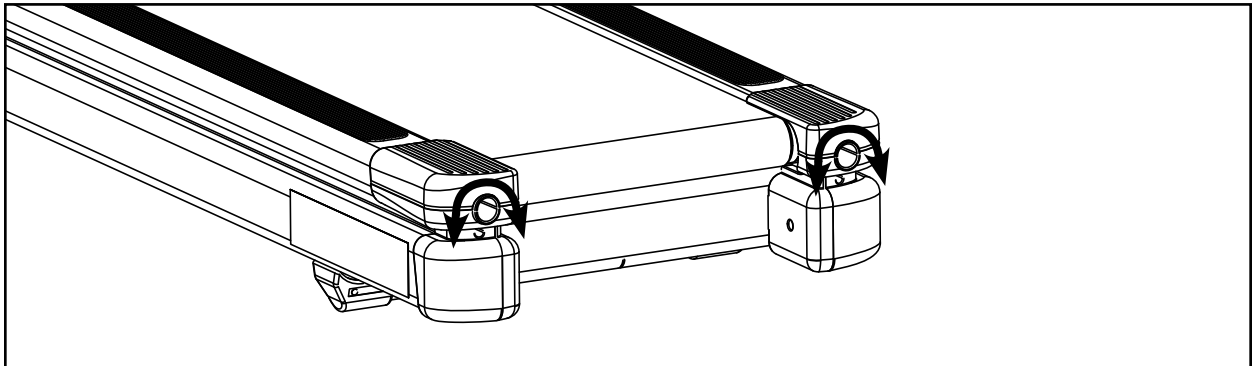

Figure 1
- A.** Use a 3/4" socket wrench to turn each bolt 1/2 turn clockwise. See Figure 1. **NOTE:** Be sure to adjust each bolt equally on each side.